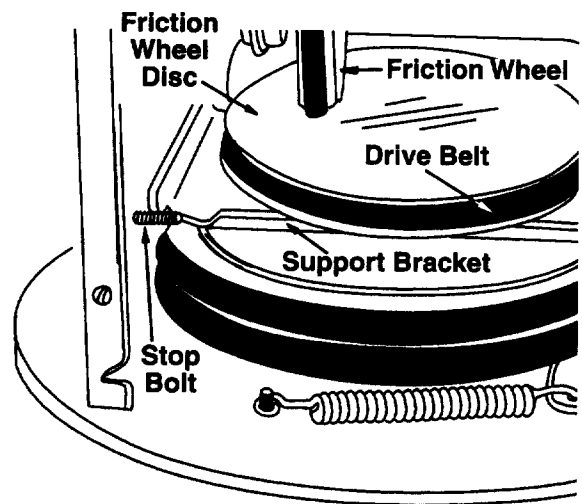

FIGURE 21.
7. Back out the stop bolt to allow the belts to slip between the bolt and auger pulley. See figure 21.
3. Back out the stop bolt until the support bracket rests on the auger pulley. See figure 21.
4. Slip belt between friction wheel and friction wheel disc. See figure 21. Remove and replace belt. Reassemble following the instructions in reverse order.
NOTE: The support bracket must rest on the stop bolt after the new belt has been assembled. See figure 21.